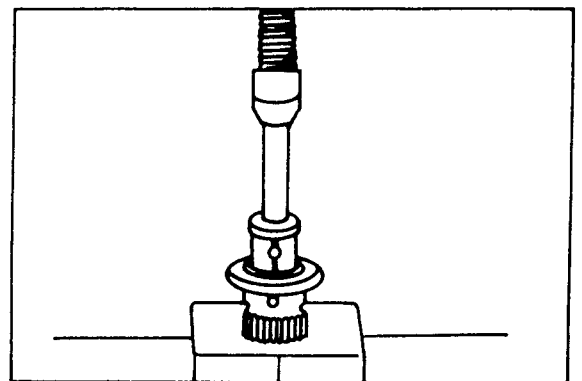

Figure 6
- c) Press the bearing all the way down until the adaptor ring contacts the gear flange, as shown in Figure 6.